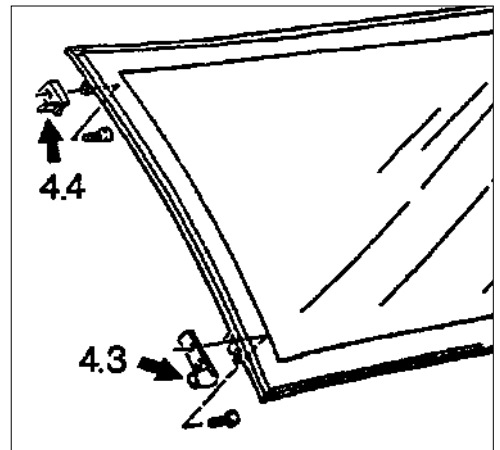

Figure 17
- Figure 17, additional view of glass roof panel with axle plate.